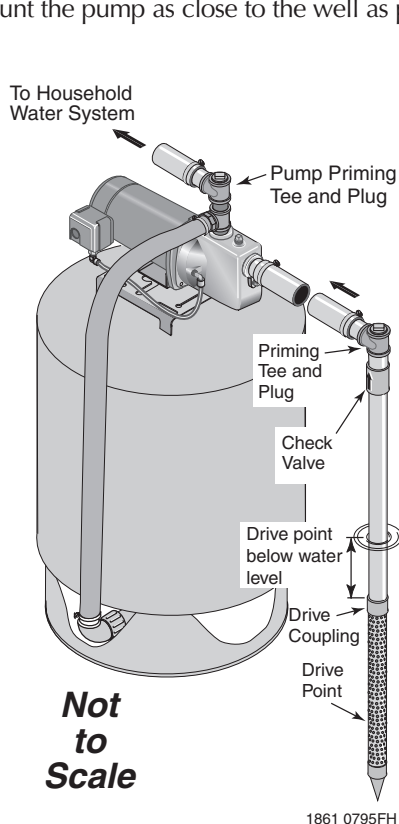

Figure 1: Driven Point Installation
## WELL POINT (DRIVEN POINT) INSTALLATION (FIGURE 1)
- Step 3. Use the fewest possible fittings (especially elbows) when connecting the pipe from the well point to the pump suction port. The suction pipe should be at least as large as the suction port on the pump (include a check valve if your pump is not equipped with one – see Figure 1). Support the pipe so that there are no dips or sags in the pipe, so it doesn't strain the pump body, and so that it slopes slightly upward from the well to the pump (high spots can cause air pockets which can air lock the pump). Seal the suction pipe joints with PTFE pipe thread sealant tape. Joints must be air- and water-tight. *If the suction pipe can suck air, the pump cannot pull water from the well.* If one well point does not supply enough water, consider connecting two or three well points to one suction pipe.